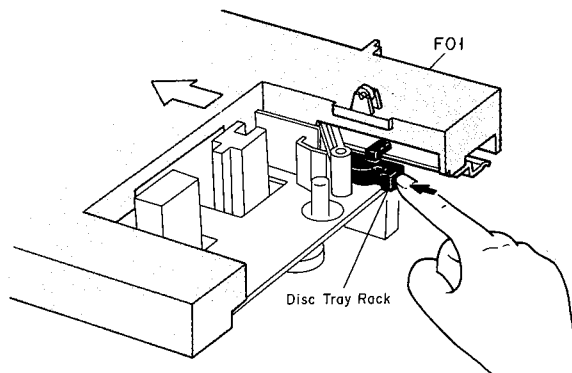

Fig. 2.10.3
- (a) With turning F05 (Loading Cam) counterclockwise, insert F04 into claws D and place F01 (Disc Tray Ass'y). Refer to Figs. 2.10.3 and 2.10.2.